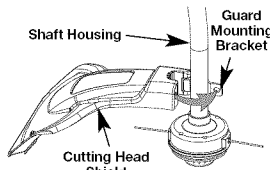

Fig. 2
1. Place the cutting head shield onto the shaft housing. Be sure the guard mounting bracket slides into the slot on the edge of the cutting shield. Rotate the shield into place, counterclockwise. The holes in the guard mounting bracket and cutting head shield will line up (Fig. 2).